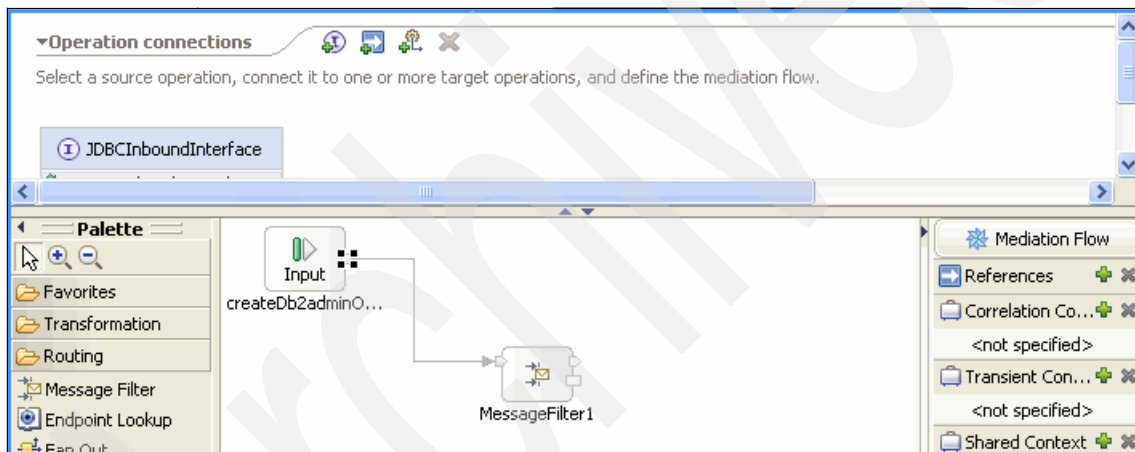

Figure 6-78 Wiring the input node to a message filter primitive
1. From the Palette, select **Routing** → **Message Filter** and add it to the canvas. Wire the **Input node** to the **Message Filter** primitive (Figure 6-78).